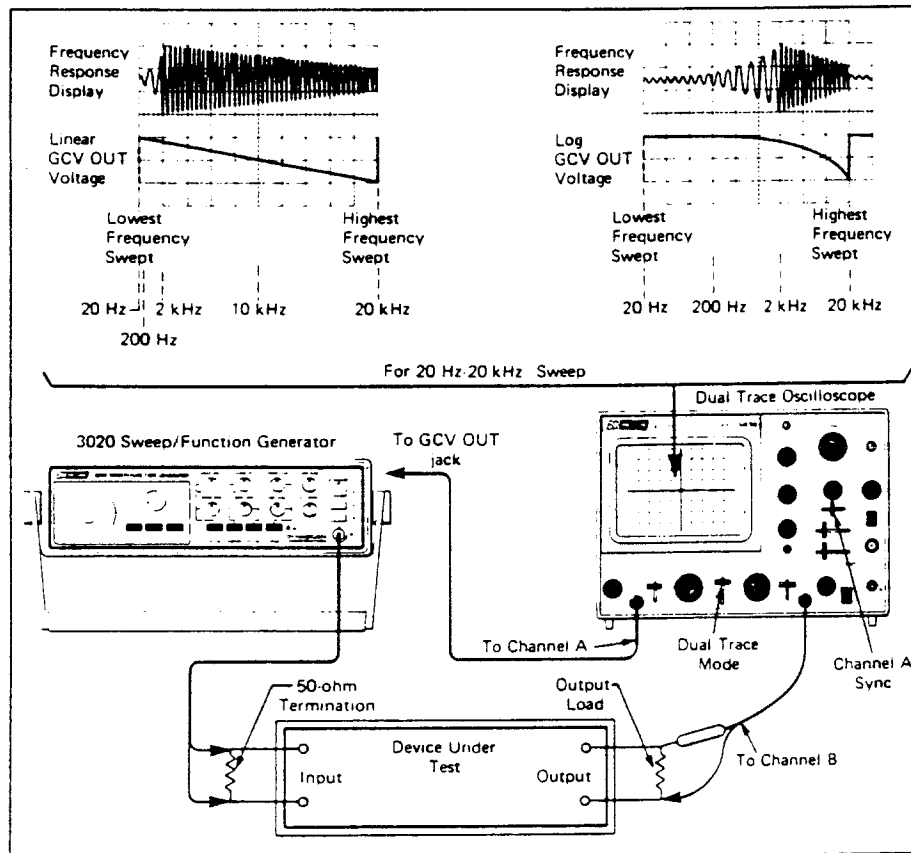

Fig. 27. Frequency response measurement, linear/log display method.
Fig. 27 shows that LIN sweep gives more resolution of high frequency response and LOG sweep gives more resolution of low frequency response. Sometimes it is desirable to examine the frequency response characteristics of a device using both LIN and LOG sweep. Notice that this method also provides the conventional left-to-right sweep pattern to which most technicians are accustomed.
The following procedures, along with Fig. 27, describes the typical set-up and technique for linear/log frequency response measurements.
13. Readjust oscilloscope sweep speed to spread one cycle of the waveform over some convenient number of horizontal divisions. Each division can later serve as a frequency marker if the corresponding frequency is calculated. For example, a linear display may be spread over 10 horizontal divisions. Since the lowest and highest frequencies are already known, the difference may be divided into 10 equal increments. The example in Fig. 27 shows a 20 Hz to 20 kHz linear sweep display spread over 10 divisions. The difference between the lowest and highest frequency is almost 20 kHz. Therefore, starting from the left of the display at 20 Hz, each division equals a frequency increase of 2 kHz. When log display is used, frequency increases at a logarithmic rate and markers between the lowest and highest frequencies must be scaled logarithmically. The example in Fig. 27 shows a 1000:1 log sweep display spread over nine horizontal divisions. Each three divisions equals a decade of frequency change; that is, after three divisions, the frequency has increased one decade or 10:1 (from 20 Hz to 200 Hz), after six divisions the frequency has increased another decade or 100:1 (to 2 kHz), and after nine divisions the frequency has increased another decade or 1000:1 (to 20 kHz).
If a dual-trace oscilloscope is used, use the channel A attenuator/gain controls to reduce the amplitude of the sweep voltage waveform to about two vertical divisions and position the channel A trace toward the bottom of the screen as shown in Fig. 27. Sync the oscilloscope to the channel A signal. Connect the channel B input of the oscilloscope to measure the voltage across the output load of the circuit being tested.